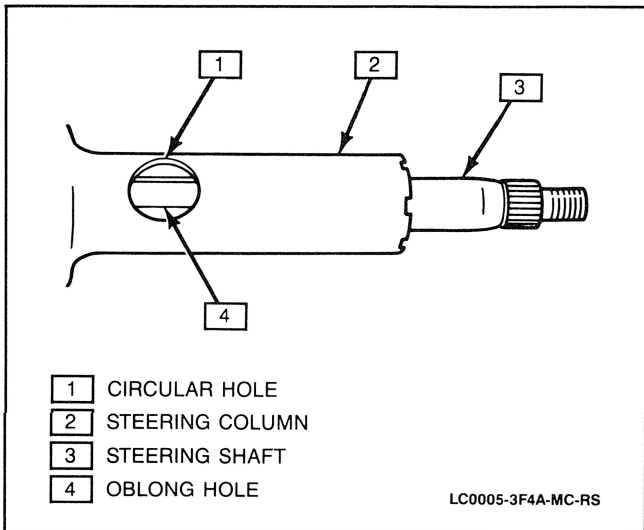

Figure 5 Centering Steering Column
- Position oblong hole of steering shaft in the center of the circular hole in the steering column (Figure 5).